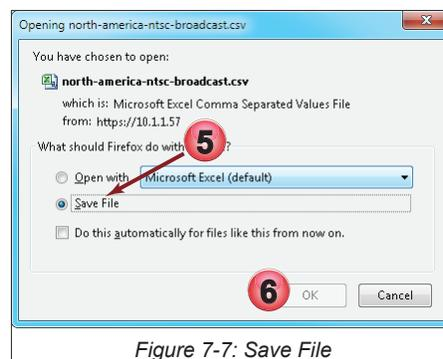

Figure 7-7: Save File
5. Select "Save File", Figure 7-7, to download the file via your browser. Alternately select the compatible program to open the file with. This dialog may appear differently in the browser you are using.